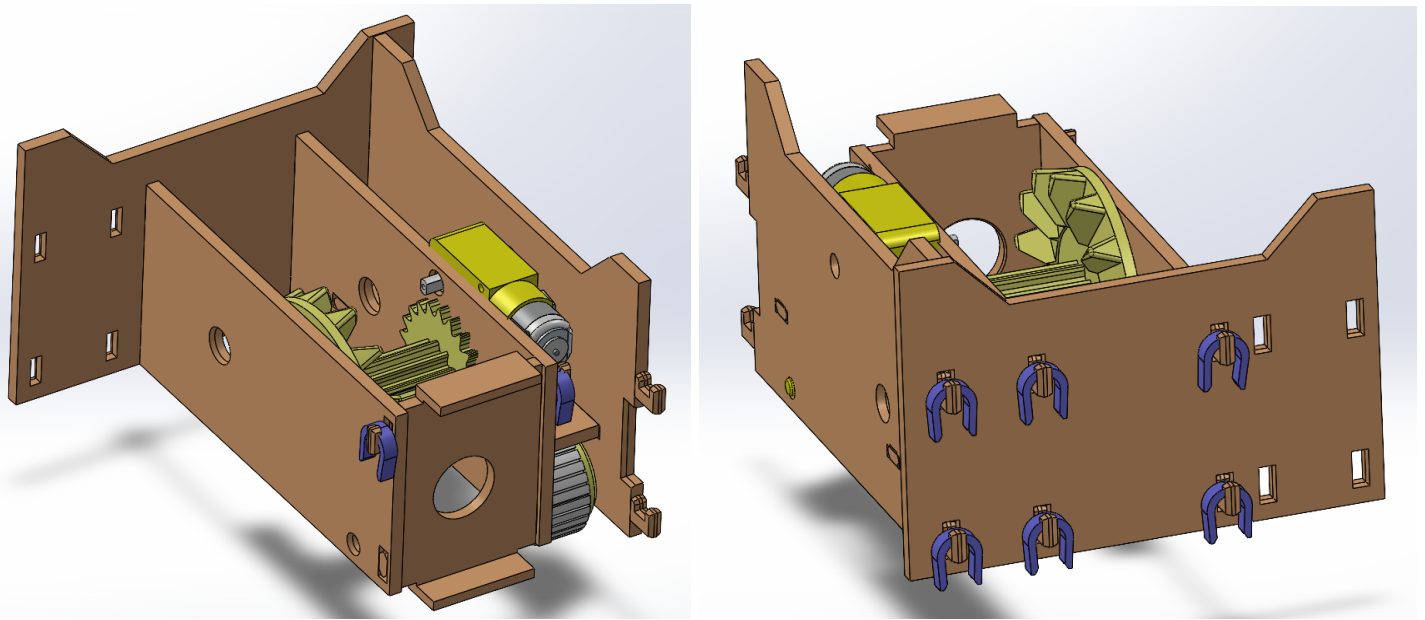

FIGURE 6
STEP 6: In this step we take the result from **STEP 5** as well as the wall with the number 2 and put them together as seen in figure 6, after that we pin them together using the thin purple pinners numbered 23.